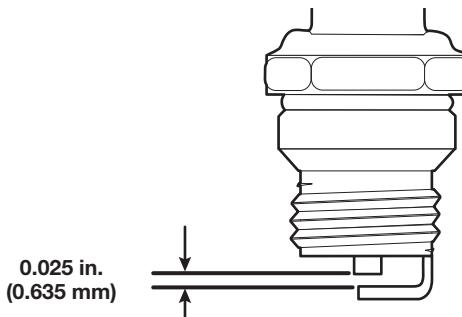

Fig. 14
5. Use a feeler gauge to set the air gap at **0.025 in. (0.635 mm)** (Fig. 14).